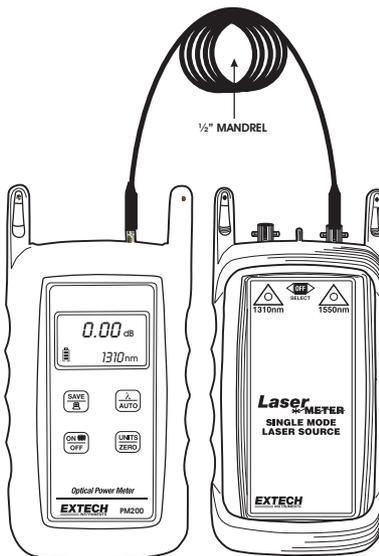

Figure 3
- e) Connect the other patch cord to the PM200 and light source as shown in Figure 3. The example shows a reference setting procedure for multimode light sources. Notice the insertion of a 1/2" mandrel. Mandrels are used to achieve EMD (Equilibrium Mode Distribution) when setting the reference from a multimode light source. EMD is achieved by wrapping the reference patch cord around the mandrel 5-7 times. Single-mode sources do not require a mandrel.